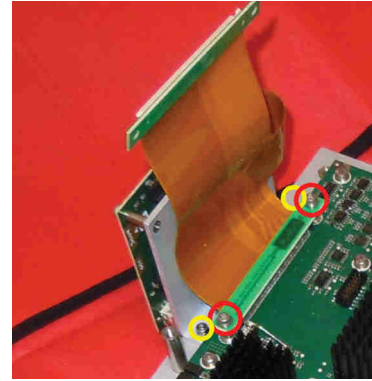

Fig. 10.16 Removal of board
- 8 Remove two screws and two nuts holding the connector and the support angle, respectively. See Fig. 10.16 \(p. 138\) - red circles indicate two screws on connector (tools 1/7), yellow circles indicate the two nuts holding the support angle (tools 1/2).